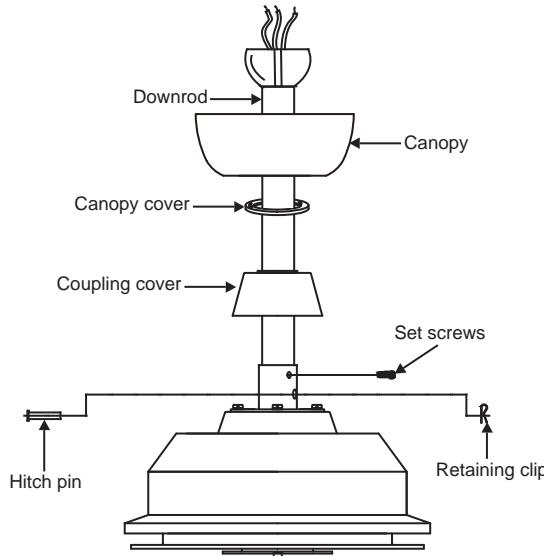

Fig. 9
Step 8. Slip the coupling cover, secure ring , canopy cover and canopy onto the downrod. (Fig. 9)
Thread the hanger ball onto the downrod, insert the cross pin through the downrod and tighten. Now tighten the set screw. (Fig. 9)